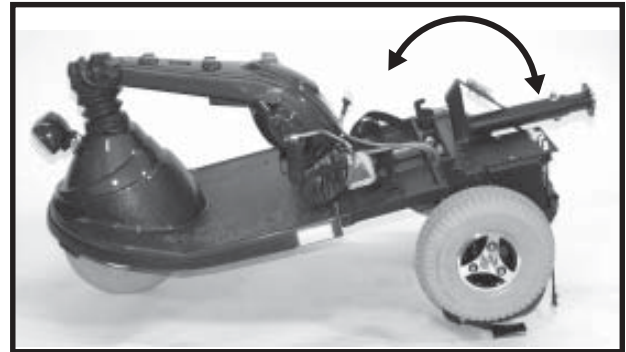

Figure 21. Frame Positioning
1. Push back on the seat post to pivot the scooter's rear section backwards until the rear section is standing vertically on its rear bumper. See figure 21.
3. Holding the seat post, slowly pivot the rear section forward until the curved locking brackets are fully connected onto the top rear pegs. See figure 21.